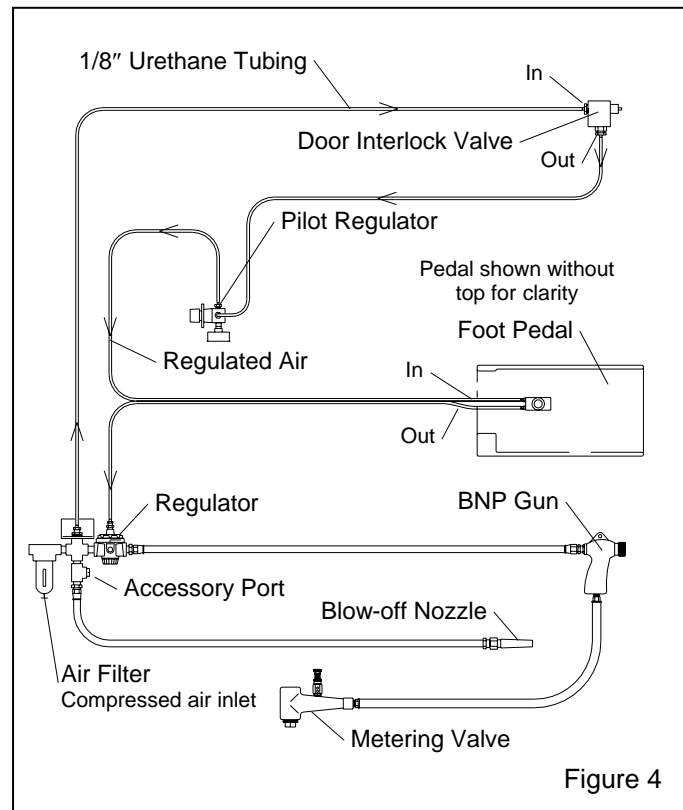

Figure 4
**2.1.3** See Figure 1 (and 2 for optional reverse pulse collector) for the general arrangement and Figure 4 for control line schematic. Select a location where compressed air and electrical services are available. The cabinet location must comply with OSHA and local safety codes. Allow for full access to all doors and service areas, and for efficient handling of large parts. Provide enough clearance in front of the dust collector to remove the dust drawer without tipping. Ideally, locate the reclaimers directly behind the cabinet with the media hose connection toward the cabinet with as few bends as possible. Determine the best location, and position all units before final assembly.